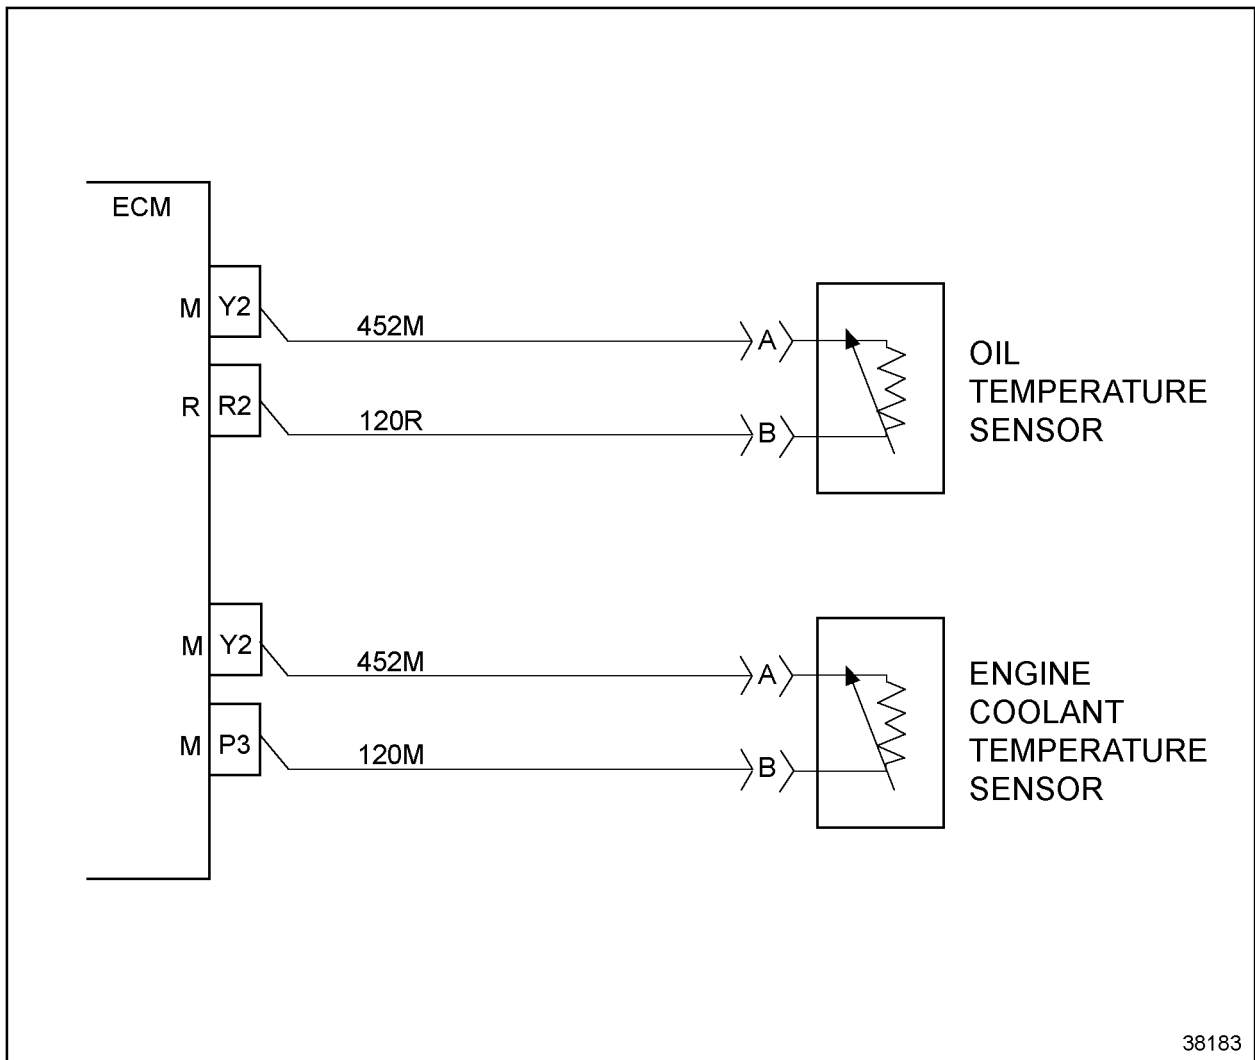

Figure 15-2 Temperature Sensor Circuits
2. Disconnect OTS connector. See Figure 15-2.